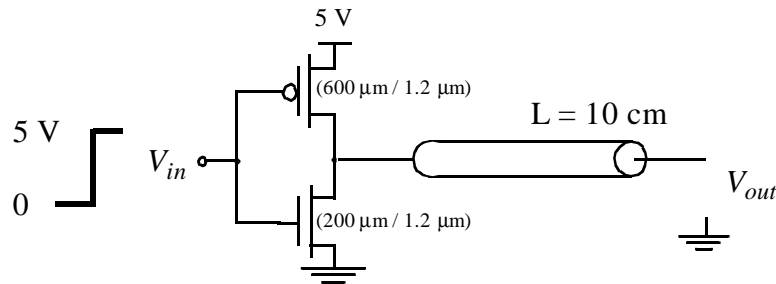

FIG. 4 Driver and Transmission Line.
d. Unfortunately, an aluminum wire hardly can be call a “lossless” medium. Determine quantitatively if the resistive or inductive effects dominate for the circuit of FIG. 4.